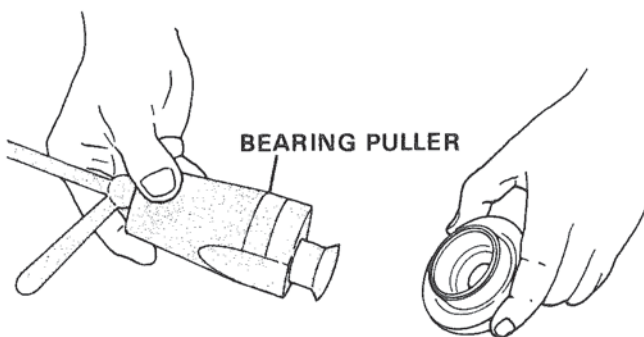

Figure 41. Removing Outer Race.
- B. Remove outer race from bearing cover, using gear puller, Special Tool No. 95905-04050. Figure 41.